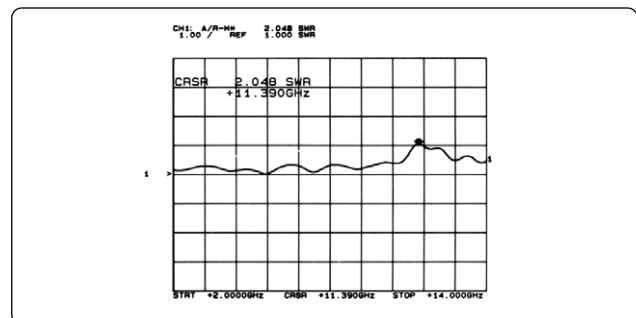

Figure 11. Example input SWR plot in dB.
- To view SWR, simply change the trace format. Press [DISPLAY], then select [TRC FMT SWR]. The trace is then displayed in SWR. Press [CURSOR] and use the knob to view the SWR at any point along the trace (see Figure 11).